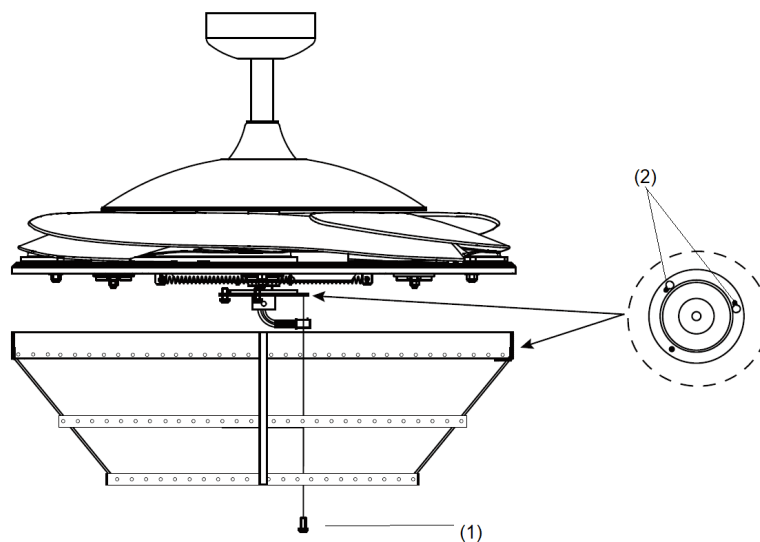

Fig. 7
LIGHT KIT INSTALLATION (Fig.7 & 8)
1. Loosen the screw (1) from the fan bracket. Align the two slot screws with the keyhole slots (2) of the light kit bracket. (Fig. 7)
2. Turn the light kit counterclockwise until the slot screws are firmly at the end of the slots (2).
3. Secure screw (1) to the light kit bracket. Tighten all three screws. Do not over-tighten.